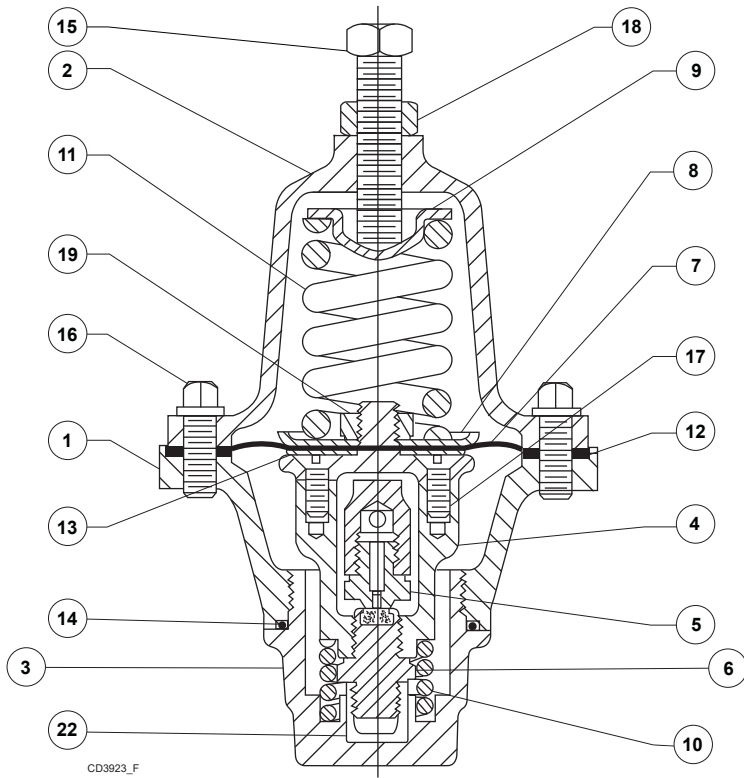
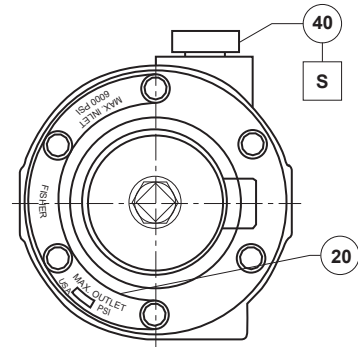

Figure 3. Type 1301F High-Pressure Regulator Assembly
Figure 4. Type 1301G High-Pressure Regulator Assembly
If adjustment is necessary, loosen the locknut (key 18, Figures 3 and 4), and turn the adjusting screw (key 15, Figures 3 and 4) clockwise to increase the set pressure or counterclockwise to decrease the set pressure. Monitor pressure with gauges during adjustment. When adjustment is complete, tighten the locknut. If the desired outlet pressure is not within the range of the regulator spring, install a spring with a desired range according to the Maintenance section.
The following procedure describes how to completely disassemble the regulator. When part replacement or inspection is required, complete only those steps necessary to accomplish the job. Key numbers referenced are shown in Figure 3 for the Type 1301F Regulator and in Figure 4 for the Type 1301G Regulator unless otherwise indicated.
This procedure assumes that the regulator was completely disassembled. If not, start these instructions at the appropriate step. Key numbers used are shown in Figure 3 for the Type 1301F Regulator and in Figure 4 for the Type 1301G Regulator unless otherwise indicated.